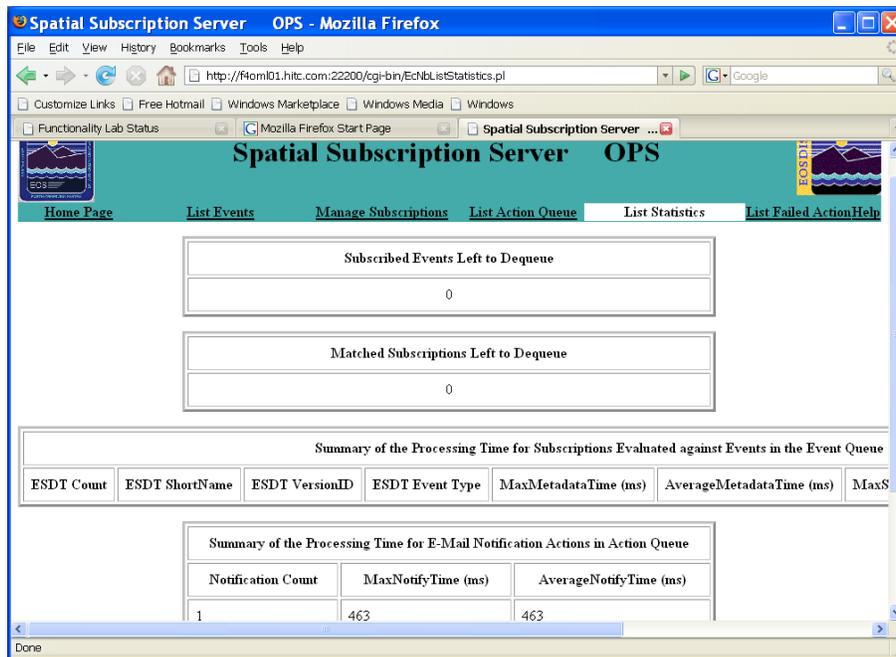

Figure 16.1-19. List Statistic Page
- The **List Statistics** page (see Figure 16.1-19) is displayed.